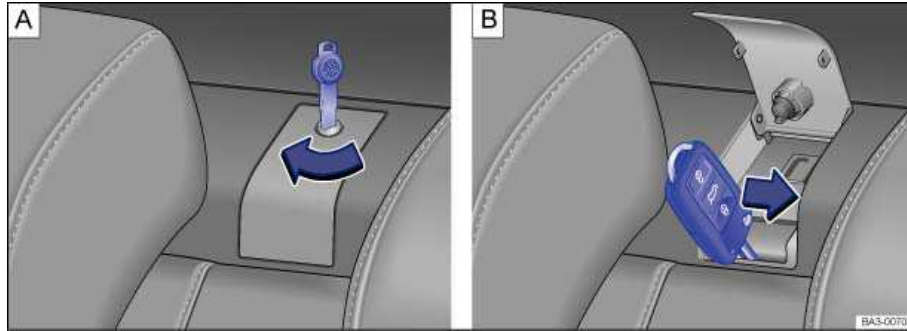

Fig. 198 Behind the rear seat backrest on the driver side: releasing the rear seat backrest.
- If the cover plate is locked, insert the Valet Parking key, *Vehicle key set* into the lock behind the rear seat backrest ⇒ fig. 198 A and turn in the direction of the arrow to unlock the cover plate.